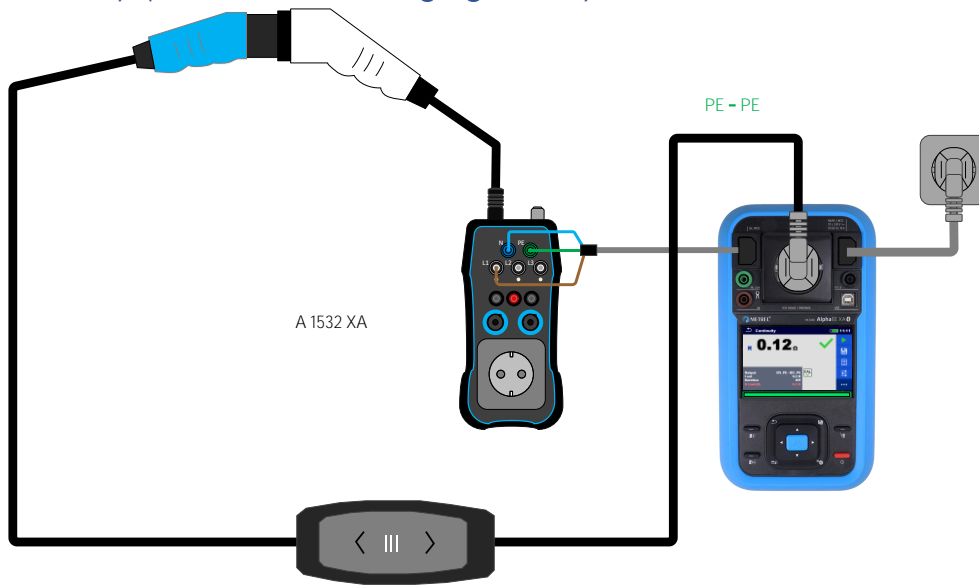

Figure 59_Continuity of protective earth
- Connect the EV cable according to the connection diagram Figure 59_Continuity of protective earth,